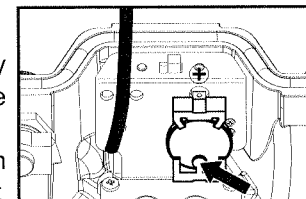

Fig.13
- To replace the battery, use CR2032. In order to take out the battery, push the circular part in the center firmly and it will come off (Fig. 13).